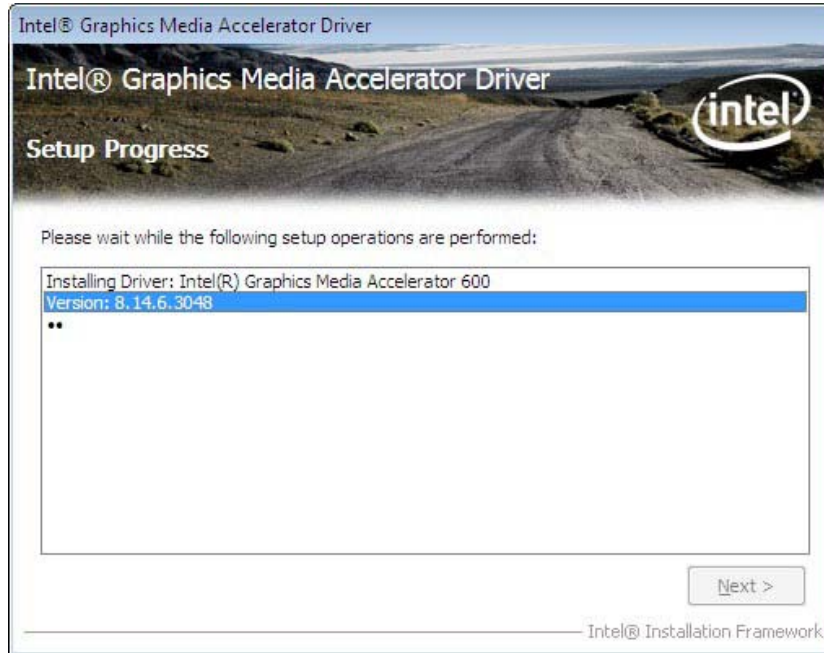

Figure 6-10: VGA Driver Setup Operations
Step 10: Setup Operations are performed as shown in Figure 6-10.